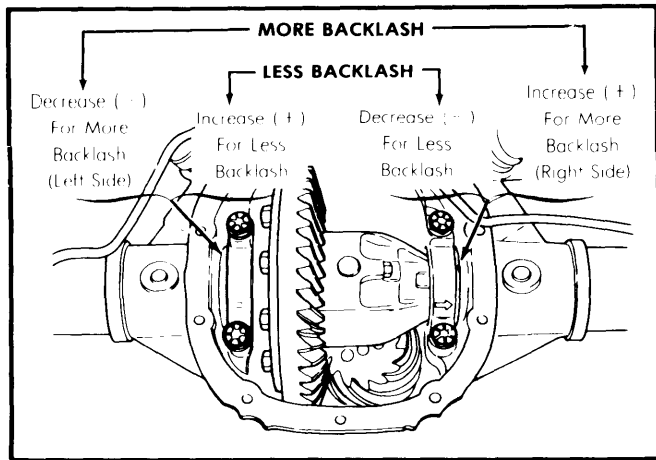

Fig. 4 Backlash Adjustment
2) Rotate differential case several times to seat bearings and then check backlash using a dial indicator. Increase or decrease shim size where necessary to correct backlash reading. See Fig. 4. Recheck backlash at 4 points, equally spaced around ring gear, making sure that variation between points does not exceed .002" (.05 mm).